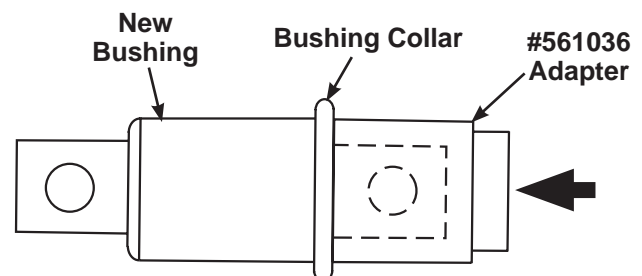

Figure 3
1. Position the tool assembly on the spring for installation of the bushing. Place adapter #561036 against the collar end of the bushing and the opposite bushing end to the spring. See Figure 3.